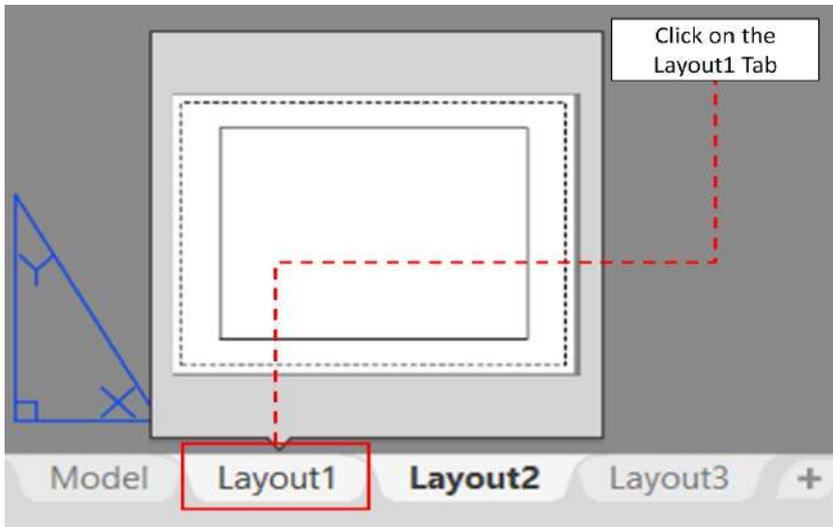
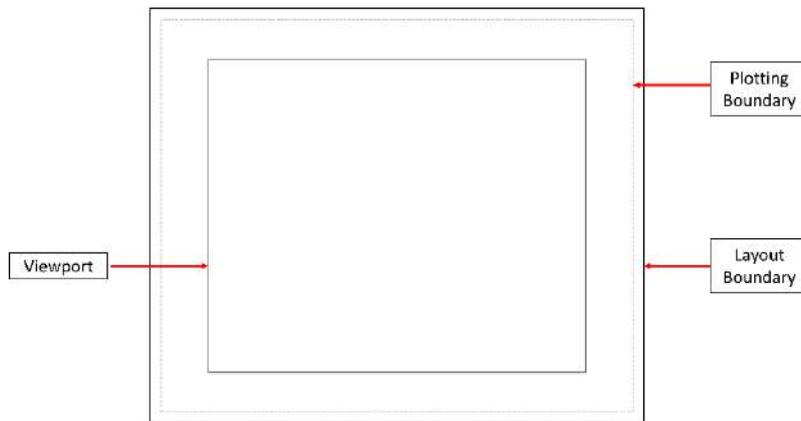

Fig. 5.2: Opening the created layout
Fig. 5.3: Components of a layout
Step 1: Begin by clicking on the "Layout 1" tab, located at the bottom of the drawing window (refer to Fig. 5.2). Upon doing this, you will observe a white paper, accompanied by an automatically created viewport. The various components of this layout are shown in Fig. 5.3.